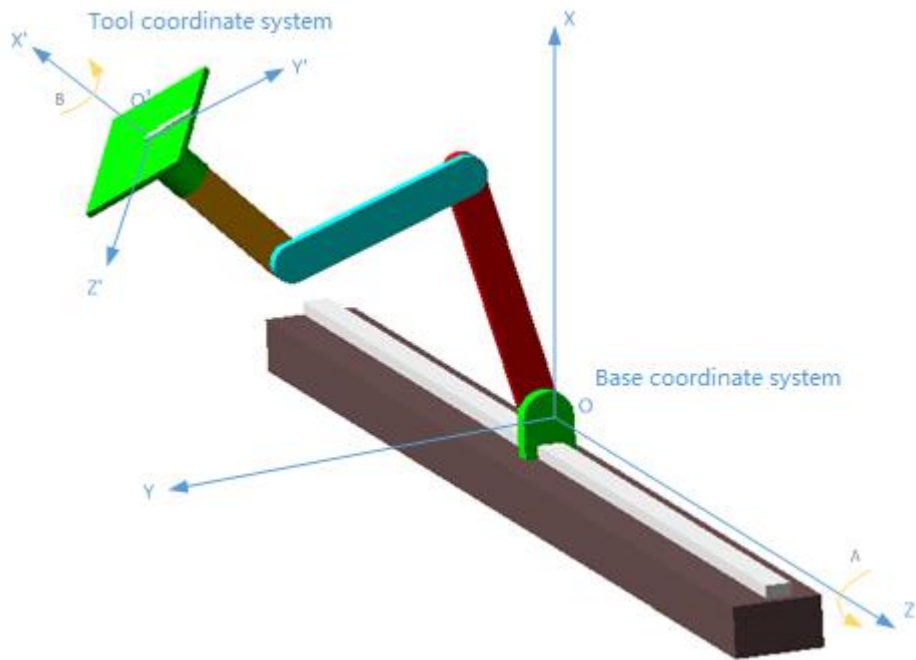
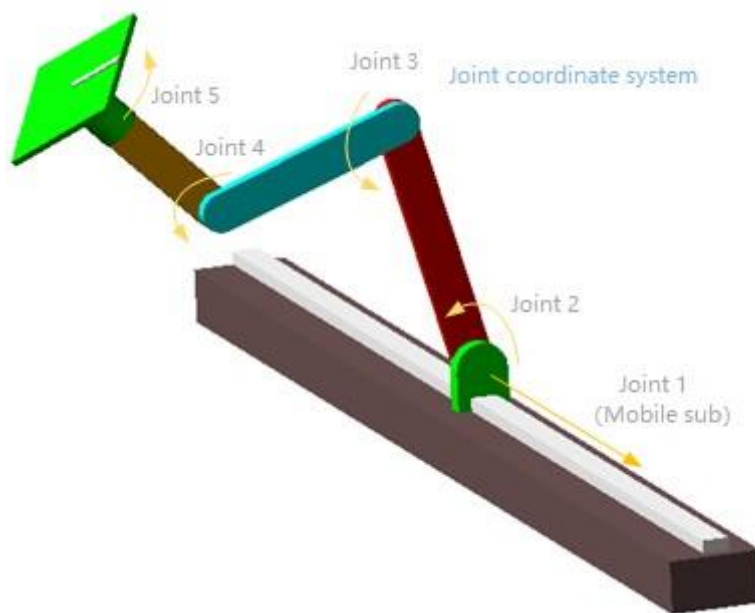
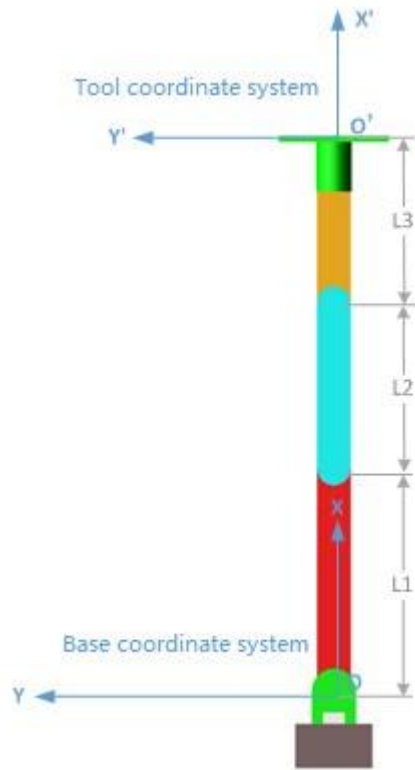

Figure 206 Definitions of Base Coordinate System and Tool Coordinate System of 5-DOF SCARA Manipulator (Cartesian Coordinates)
Figure 207 Definition of Joint Coordinate System of 5-DOF SCARA Manipulator (Generalized Coordinates)
Figure 208 Zero-point Pose of Joint Angle of 5-DOF SCARA Manipulator
The definitions of the base coordinate system, tool coordinate system, and joint coordinate system are shown in Figure 206 and Figure 207. The joint angle zero point position is shown in Figure 208.
The attitude description uses Euler angles, which is the rotation definition method of the orbiting coordinate system. The rotation sequence is Z-X', which corresponds to the A-axis and B-axis in Figure 206 respectively.
The zero point position of the joint angle is shown in Figure 208. After the back-to-zero operation is completed, as long as the zero point position has not changed, this instruction can be called at any position.
- (1) The length unit uses user unit, and the angle unit adopts the degree measure ($^{\circ}$);
- (2) The zero point position of the joint angle is shown in Figure 208;
- (3) `HMC_Cancel(AxisID,CancelMode)` can be used to cancel this instruction, and the axis number passed in during canceling must be the smallest axis number among the five drive axes;
- (4) After the instruction is called successfully, when it is executed for the first time, the tool coordinates will be initialized based on the current joint angle, and then it will move based on this initial pose;
- (5) When the instruction is executed for the first time, the RepMode of each axis in the drive coordinate space and user coordinate space will be set to limited stroke. The user can set the soft limit parameters of each joint angle
zero point pose of the joint angle of the SCARA manipulator with 208-DOF in Figure 208